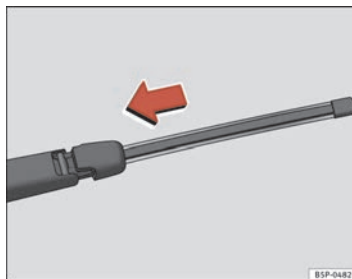

Fig. 186 Fit the rear window wiper blade
- Place the blade as shown in the ⇒ page 236, fig. 186 and slide the adapter along until it engages.